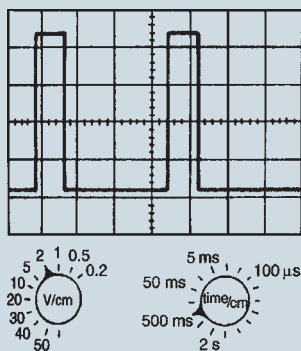

Figure 12.21
- For the pulse waveform shown in Fig. 12.21, find (a) its frequency, (b) the magnitude of the pulse voltage.